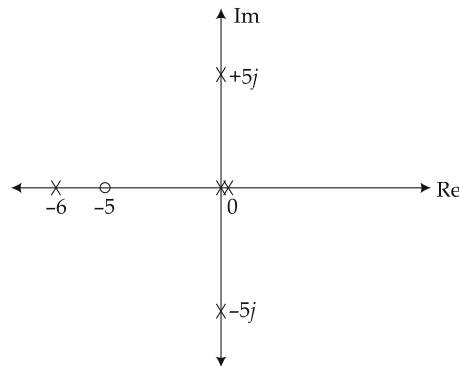

Fig. 2.2
Step 4: Pole-zero diagram is shown in Fig. 2.2.